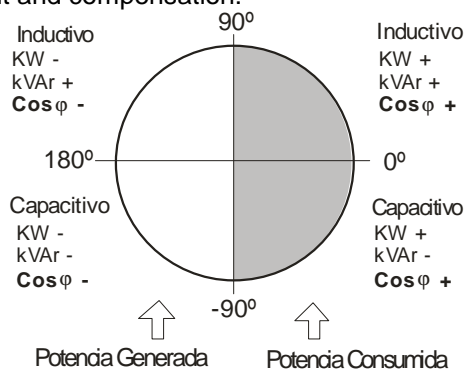

Fig. 3.1.- Signs in 4-quadrant measurements
- 4-quadrant control (see Fig.3.1), with indication about the stages connected, indication of the  $\cos \phi$ , type of reactive power (inductive  $\sim$  or capacitive  $\cap$ ), and display of energy import or export (EXPORT icon).